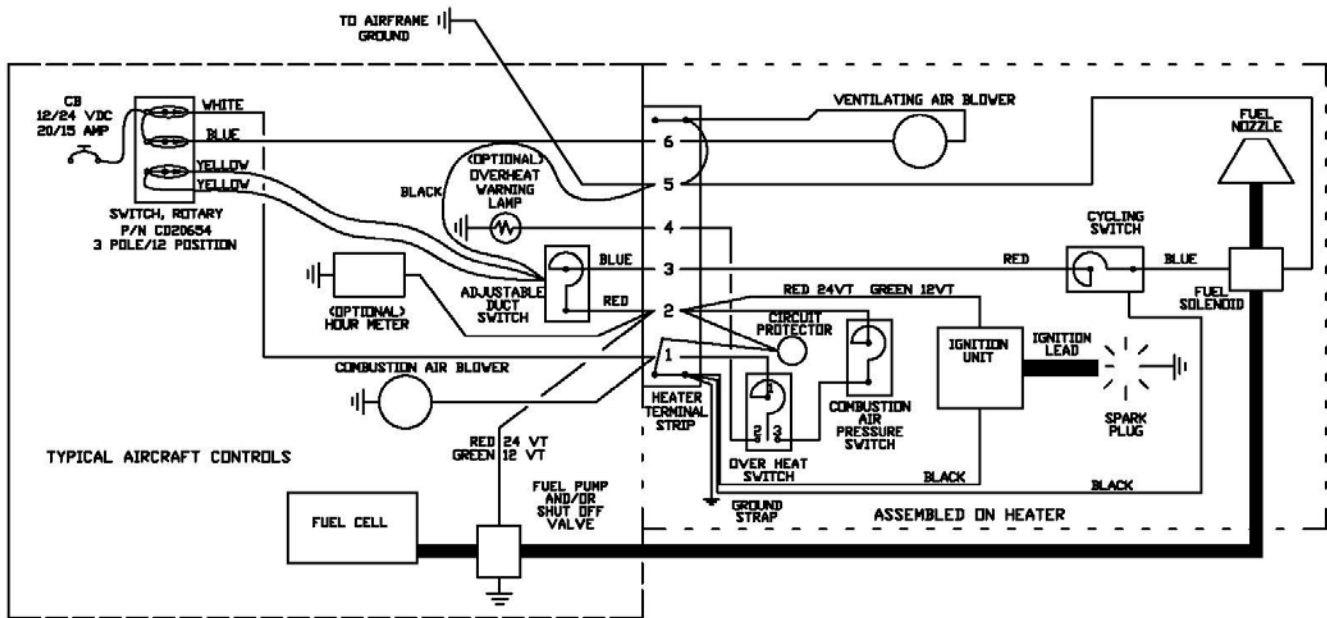

FIGURE 3
- 3.2. Heater Electrical Connection (Figure 3): Remove the old heater control switch. Locate and identify the wire running from the heater circuit breaker to the old heater switch. The new heater requires a 20 amp fuse. Marking